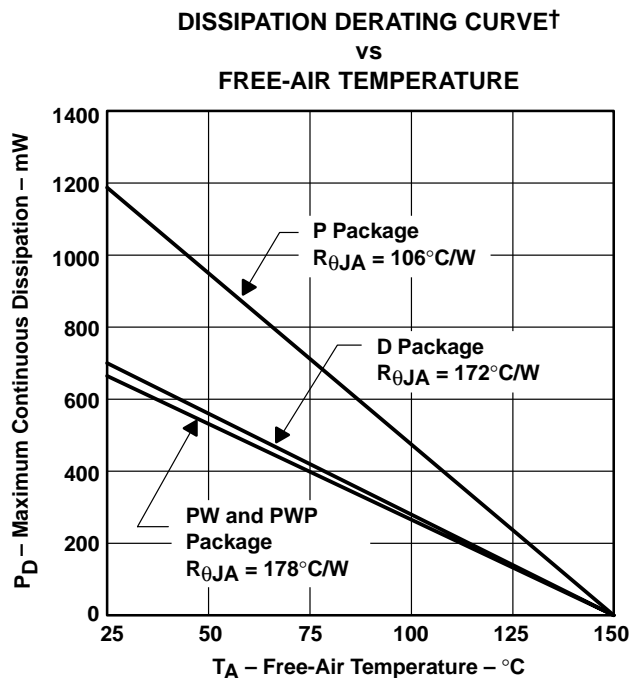

Figure 3
**DISSIPATION RATING TABLE 1 – FREE-AIR TEMPERATURE (see Figure 3)#**